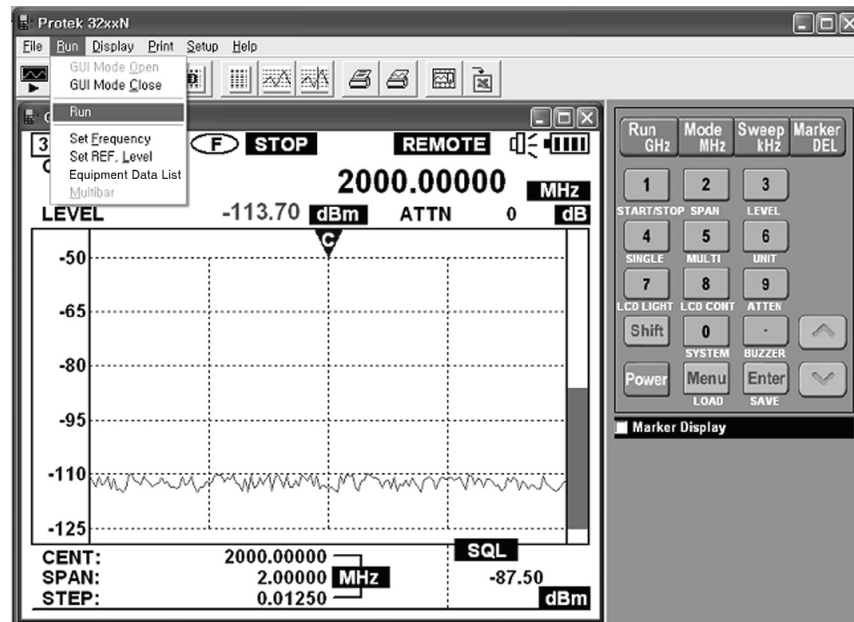

Figure 4.6. Run menu
- 1) "Set Frequency" menu is that the user can easily fix the measuring frequency range and offset value. If the user selects this menu, the window of Set frequency is displayed as the Figure 4.6. Regarding more information, refer the article 3.2.5. Input the center frequency, 3.2.5. Input the span frequency and 3.2.6. Input the start and stop frequency.